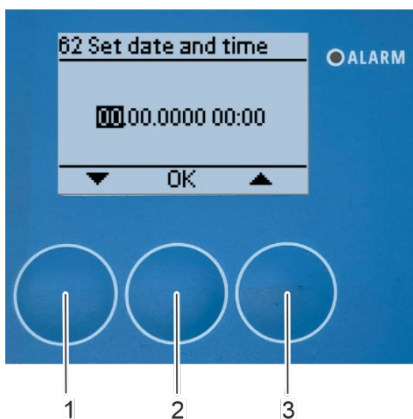

Fig. 110: Set day of month
⇒ The "Set date and time" submenu appears (Fig. 110).
3. Set the day of the month using the arrow keys [up] (Fig. 110/3) and [down] (Fig. 110/1)
4. Confirm the selection with [OK] (Fig. 110/2).